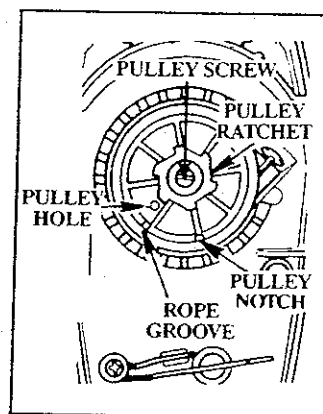

Figure 29
10. Remove screw from the starter pulley very carefully. Rotate the pulley clockwise ➡ until no spring tension is felt and carefully lift the pulley out of the fan housing. Figure 29. Remove the old rope.
17. Carefully replace pulley in the housing. Be sure the pulley is all the way down. Replace washer and screw and tighten. Figure 29.